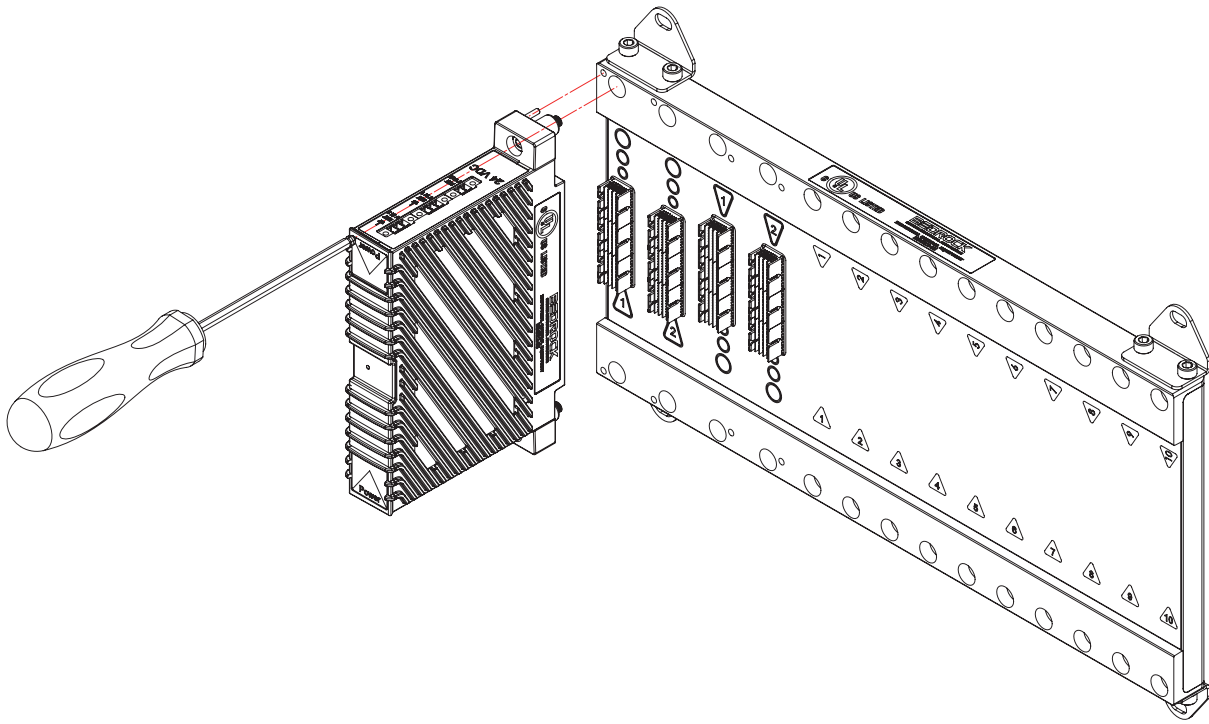

Figure 10-4 Single SPM
1. Install the SPM into the first SPM slot as shown in Figure 10-4. The SPM will be flush against the BMI when seated properly.